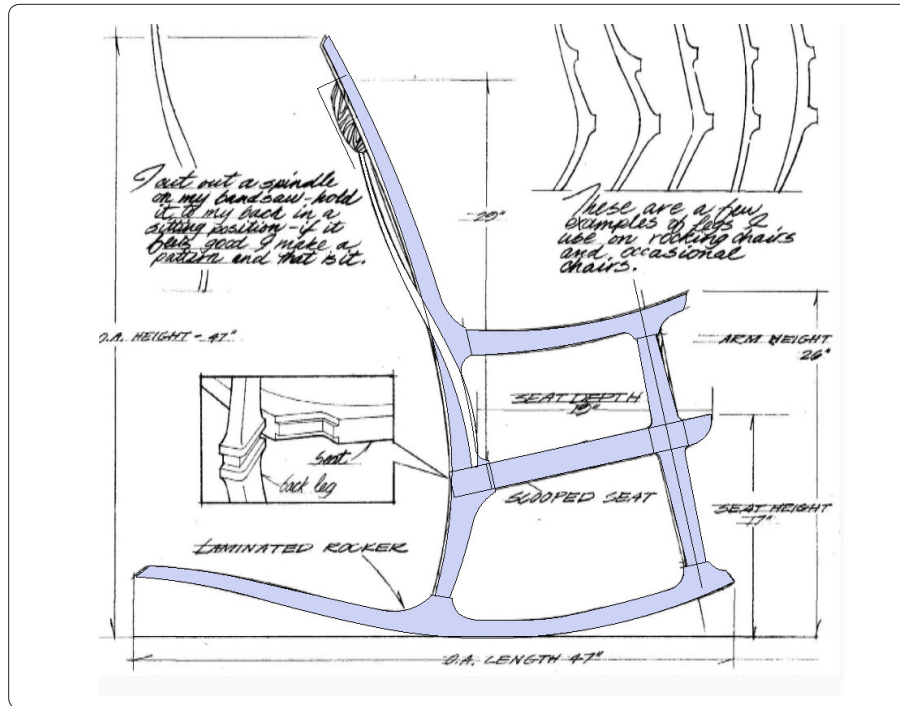
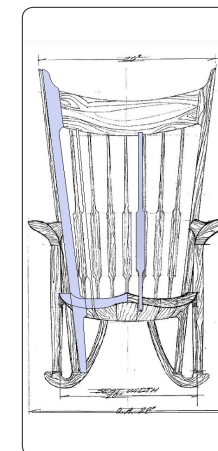

Figure 73. Trace over the shapes from the imported image.
Figure 74. Add trace-overs from the front view.
Step 1 After importing the *Fine Woodworking* illustration, align it with the red and blue axes and scale it so that the dimensions in the image are equal to those of the actual full-size piece. Trace over the shapes of the seat, front and back legs, and arm, as shown in Figure 73. Do trace-overs of the same pieces in the front view, as shown in Figure 74.